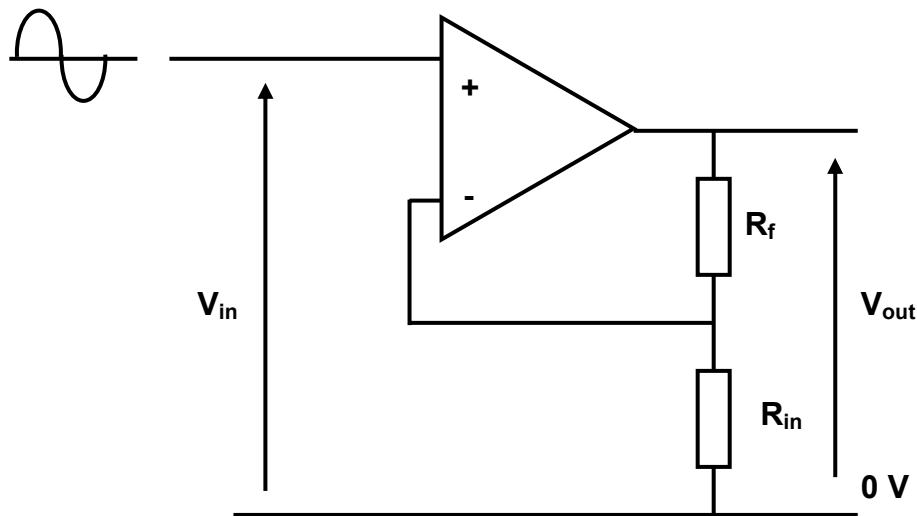

FIGURE 7.1: OPERATIONAL AMPLIFIER CIRCUIT
7.6 Refer to FIGURE 7.1.
- 7.6.1 Name the operational amplifier circuit in FIGURE 7.1. (1)